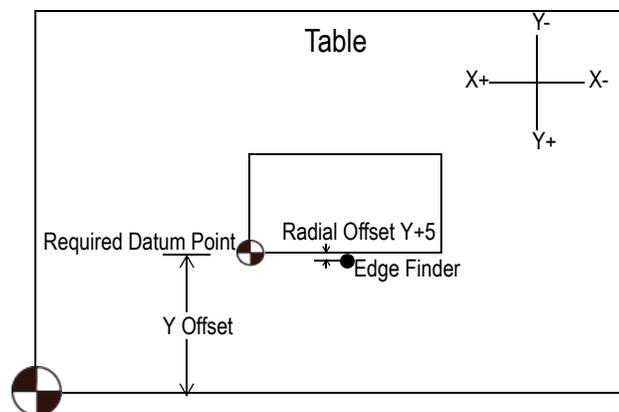

Figure 6-9: G92 Position Set
7. Type-in the current programme position from datum edge to spindle center line e.g. G92 Y+5 (Figure 6-9:).